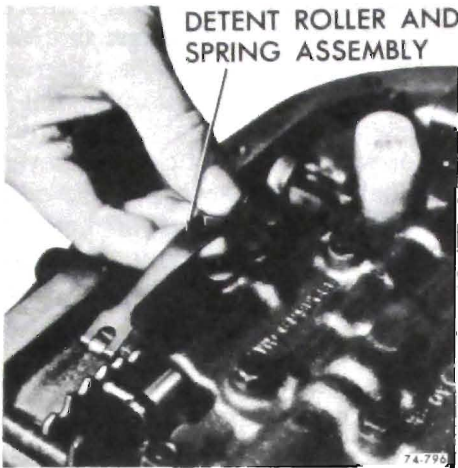

Figure 76-784
6. Install control valve assembly attaching bolts and detent roller and spring assembly. Center roller on detent lever. See Figure 76-784.